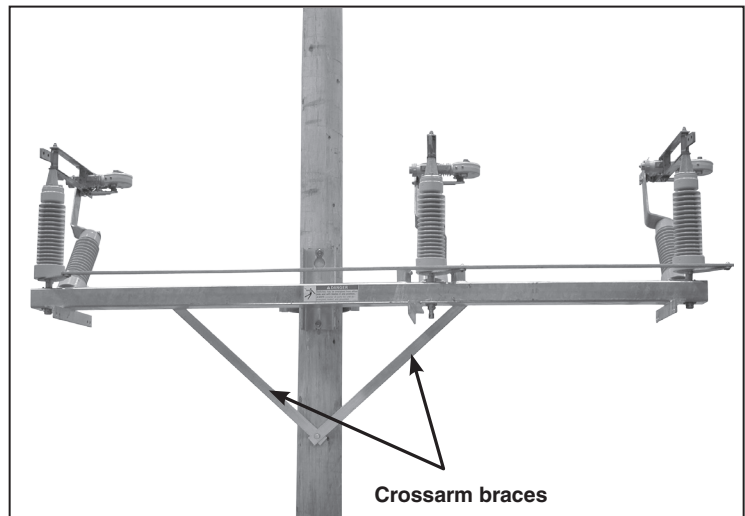

Figure 12. Attach the crossarm braces (user furnished) to the switch base.
STEP 10. If desired, crossarm braces (supplied by others) may be attached to the switch base. See Figure 12. Refer to the erection drawing.